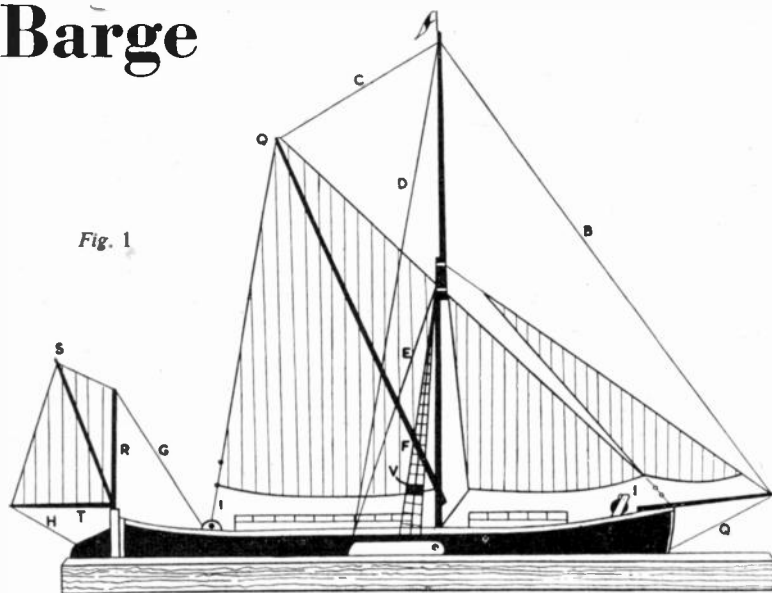

Fig. 1
THE best way to make a start on the construction of this little model is to saw and plane the baseboard (A) to the dimensions shown in the Part List—noticing that the board has a $\frac{1}{8}$ in. by $\frac{1}{8}$ in. chamfer on its upper edges. A piece of wood 7 ins. by $1\frac{1}{2}$ ins. by $\frac{1}{8}$ in. is used to make the hull block (B) which can be worked with a fretsaw and filed to the shapes shown in the diagrams Figs. 1 and 2.